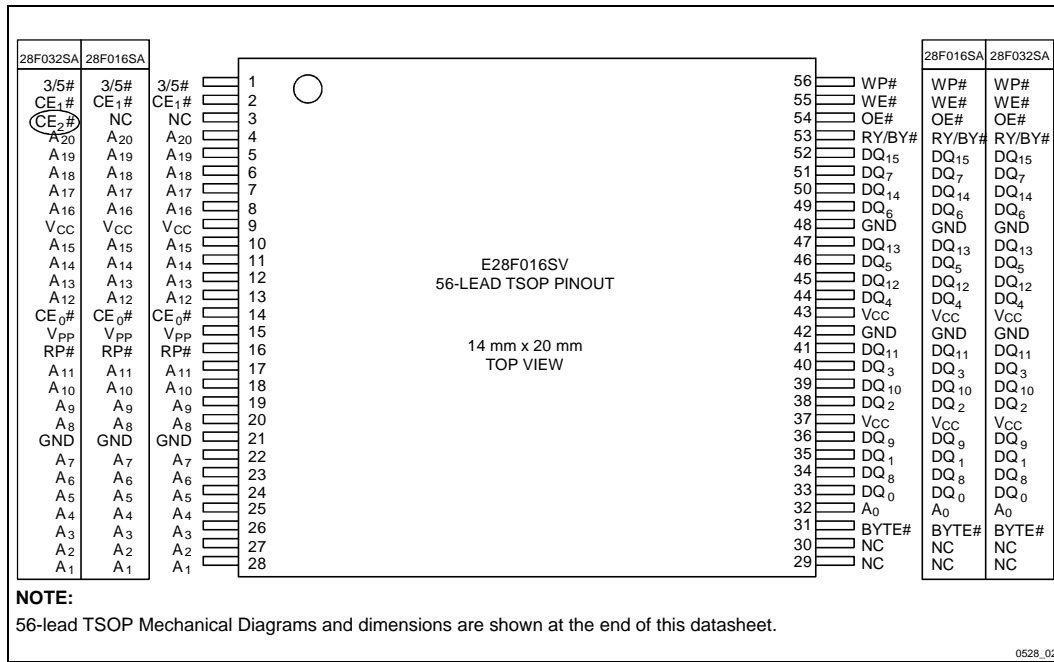

Figure 2. 28F016SV 56-Lead TSOP Pinout Configuration Shows Compatibility with 28F016SA/28F032SA
-004	<p>Added 3/5# pin to Block Diagram (Figure 1), Pinout Configurations (Figures 2 and 3), Product Overview (Section 1.1) and Lead Descriptions (Section 2.1)</p> <p>Added 3/5# pin to Test Conditions of ICCS Specifications</p> <p>Added 3/5# pin (Y) to Timing Nomenclature (Section 5.5)</p> <p>Increased t_{PHQV} Specifications at 5V V_{CC} to 400 ns for E28F016SV 065 devices and 480 ns for E28F106SV 070 devices.</p> <p>Modified Power-Up and Reset Timings (Section 5.9) to include 3/5# pin: Removed t_{5VPH} and t_{3VPH} specifications; Added t_{PLYL}, t_{PLYH}, t_{YLPH}, and t_{YHPH} specifications</p> <p>Added t_{PHL3} and t_{PHL5} specifications to Power-Up and Reset Timings (Section 5.9)</p> <p>Corrected TSOP Mechanical Specification A₁ from 0.50 mm to 0.050 mm (Section 6.0)</p> <p>Corrected SSOP Mechanical Spec. B (max) from 0.20 mm to 0.40 mm (Section 6.0)</p> <p>Minor cosmetic changes throughout document.</p>
A significant 28F016SV change occurred between datasheet revisions 290528-003 and 290528-004. This change centers around the addition of a 3/5# pin to the device's pinout configuration. Figures 2 and 3 show the 3/5# pin assignment for TSOP and SSOP Type 1 packages. Intel recommends that all customers obtain the latest revisions of 28F016SV documentation.
The 28F016SV 56-lead TSOP and 56-lead SSOP Type I pinout configurations are shown in Figures 2 and 3.